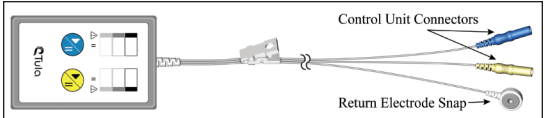

Figure 3. Details of the Control Unit
The Control Unit (**Figures 3 and 4**) is a single-use, battery-powered, disposable medical device. It contains a microprocessor that is programmed to deliver a specific iontophoresis current profile.
- b. Attach the Return Electrode to the cable at the return electrode snap (**Figure 3**).